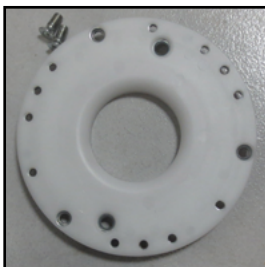

Figure 9 - Removed Adapter Plate
Step #9 - Use a Phillips Head screwdriver to remove the two (2) screws attaching the adapter plate to the blower. See Figure 9.